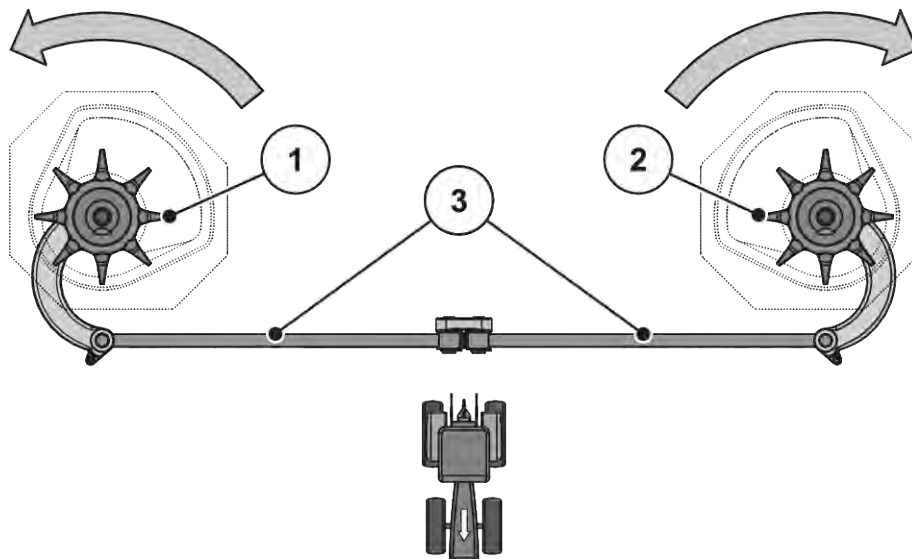

Fig. 93: Checking the agitator drive
► Manually turn the agitator head **into the rotational direction of the spreading disc**. See Fig. 93 Checking the agitator drive.
► Turn the agitator head manually or with the help of an oil filter belt forcefully **against the rotational direction of the spreading disc**. See Fig. 93 Checking the agitator drive